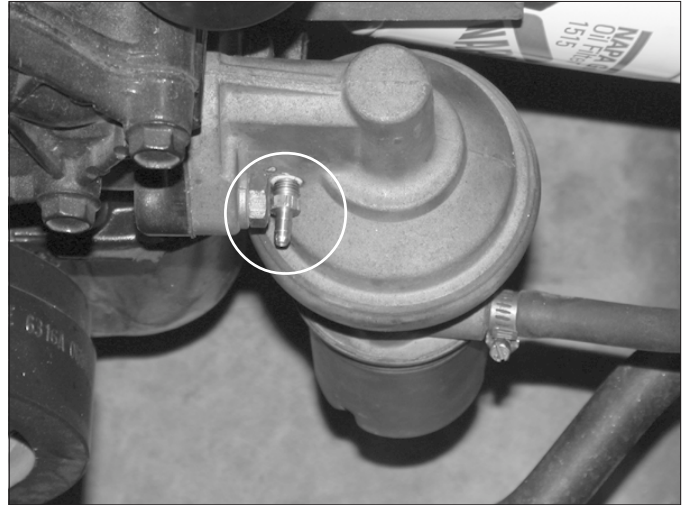

Fig. 5-a / Stock fuel pump, others similar.
- E. Attach the supplied vacuum hose to the barb fitting on the fuel pump. (See *Fig. 5-a*.) The other end of this hose will later be connected to the carburetor enclosure.